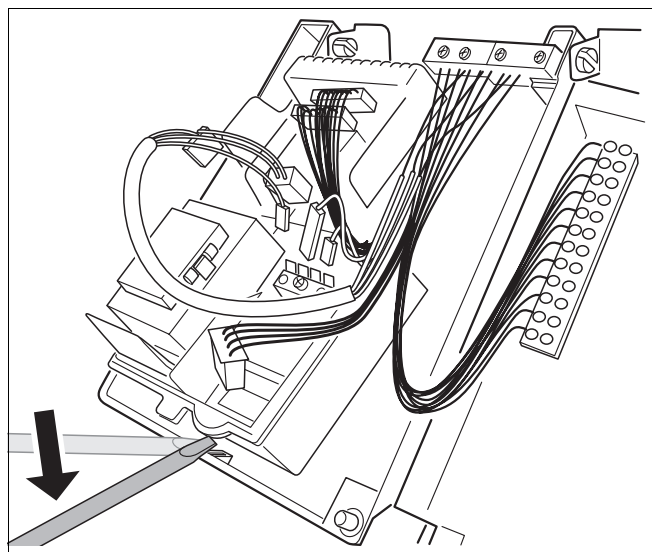

Fig. 53 Carefully lift the UBA to remove
- Carefully lift the UBA and remove by pulling forwards (snap lock) (fig. 53).